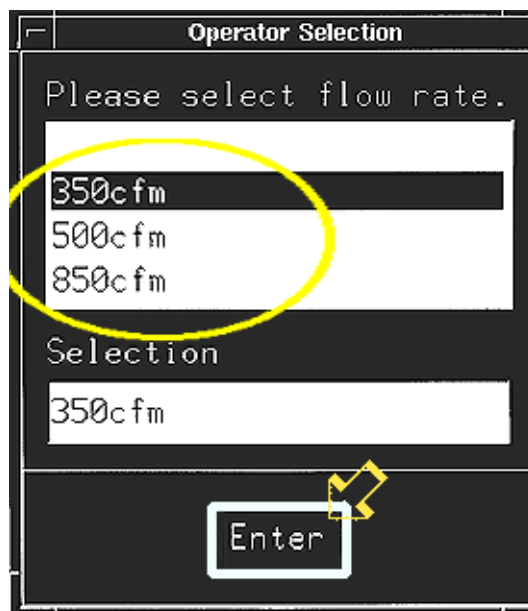

Figure 10
- 108 On the “Please Select Flow Rate” menu, highlight the 350 CFM (or 500 CFM, or 850 CFM). See the circle in Figure 10. The chosen flow rate will appear in the “Selection” field. Click on Enter. See the arrow in Figure 10.